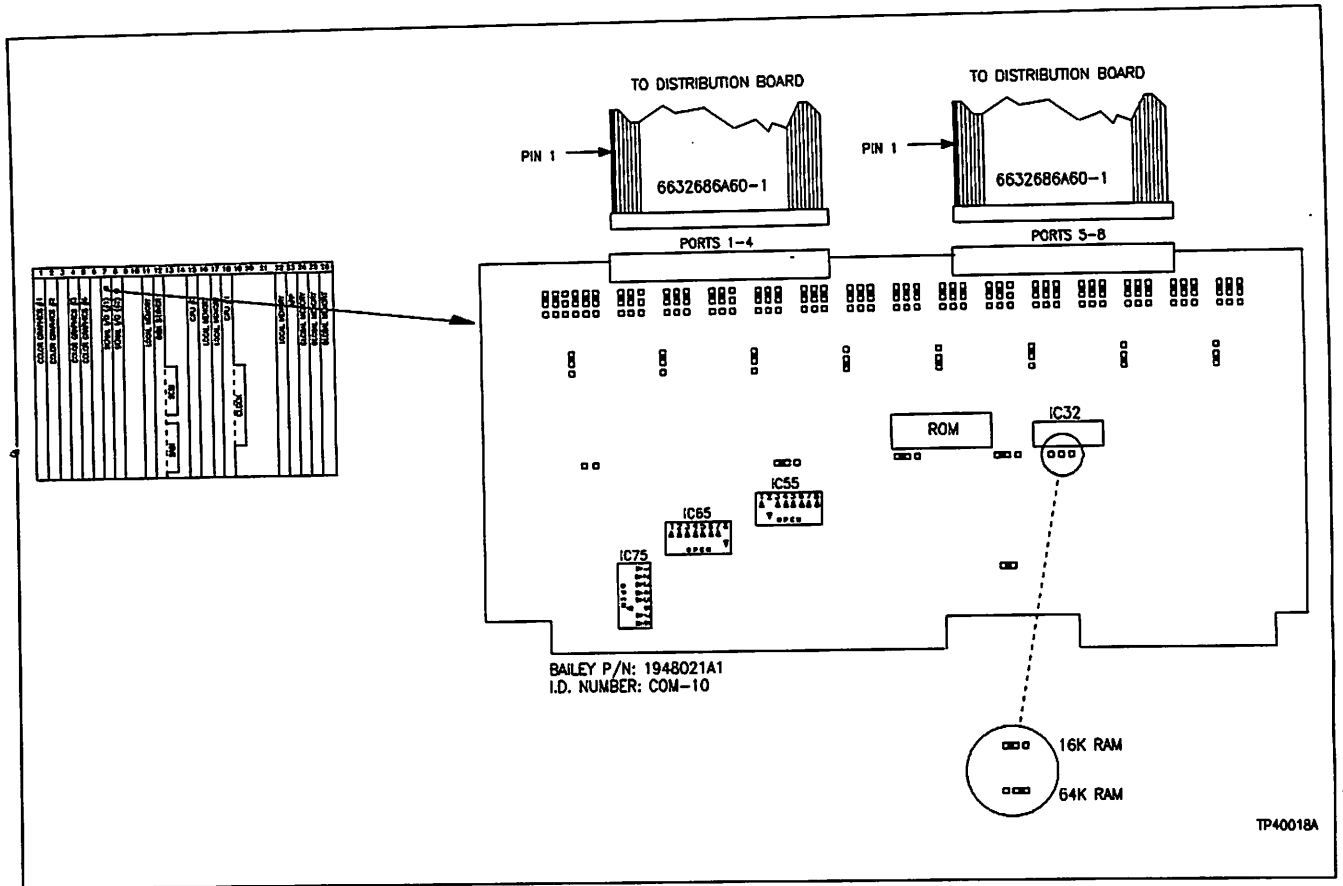

Figure 3-5A. Intelligent Serial Interface Card 2
- See Figure 3-5A for Serial Interface Card Number 2 switch settings.